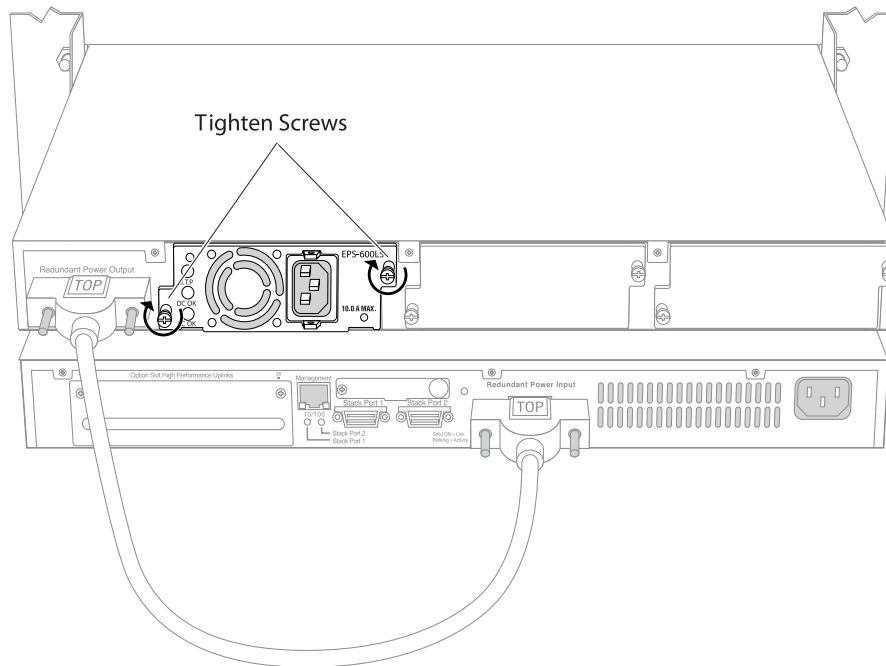

Figure 310: Securing the EPS-600LS to the EPS-C Chassis
- Slide the unit completely into the chassis until the front of the EPS-600LS is flush with the surface of the EPS-C (see Figure 310).
4. Align and tighten the captive screws to secure the EPS-600LS unit in place in the EPS-C (see Figure 310).